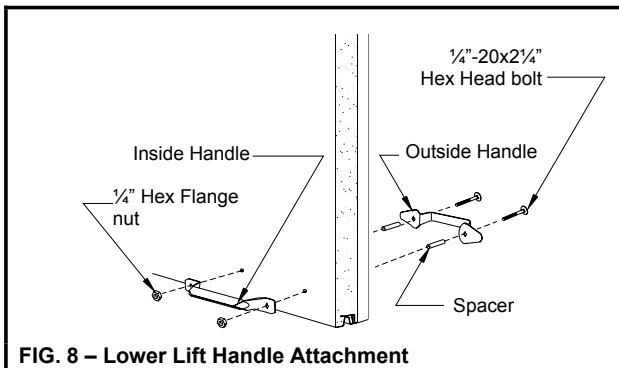

FIG. 8 – Lower Lift Handle Attachment
Step 5: Attach the black ornamental handle (outside) and the steel roll grip handle (inside) to the door using two 1/4"-20 x 2 1/4" black painted hex head bolts, and two 1/4" hex flange nuts (See Fig. 8).